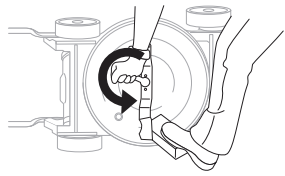

Fig.12A
- Remove the hex bolt and washer which hold the blade and blade adapter to the engine crankshaft. Remove the blade and adapter from the crankshaft.(Fig.12A)